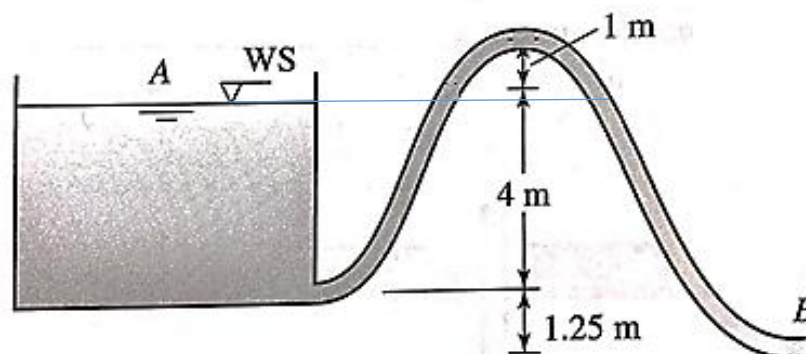

Figure 3 / Rajah 3
- (b). HDPE pipe of 250 m long with 10 cm in diameter is fitted to a water tank as shown in **Figure 3**. The water discharges into the atmosphere through a 10 cm diameter nozzle. Calculate the flow rate and the pressure at B by neglecting all minor losses in the pipe and nozzle.